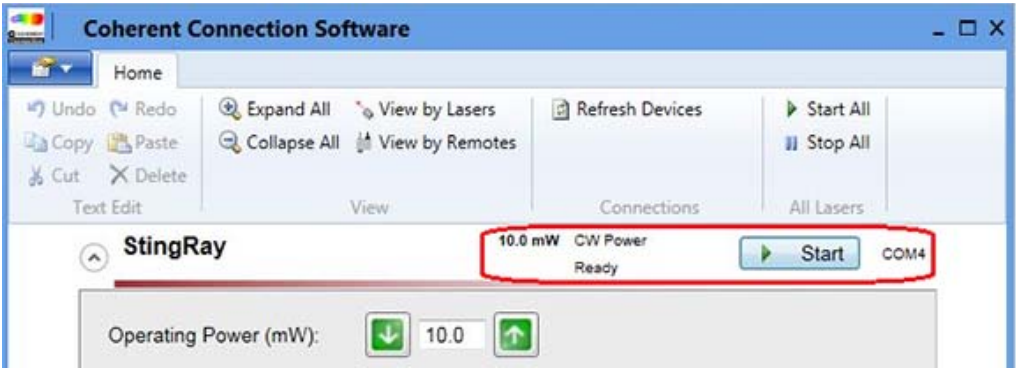

Figure 4-15. Example—CW Mode Emitting
The example in Figure 4-15 shows a laser operating in Continuous Wave (CW) mode. Click the Start button and the laser immediately begins emitting.